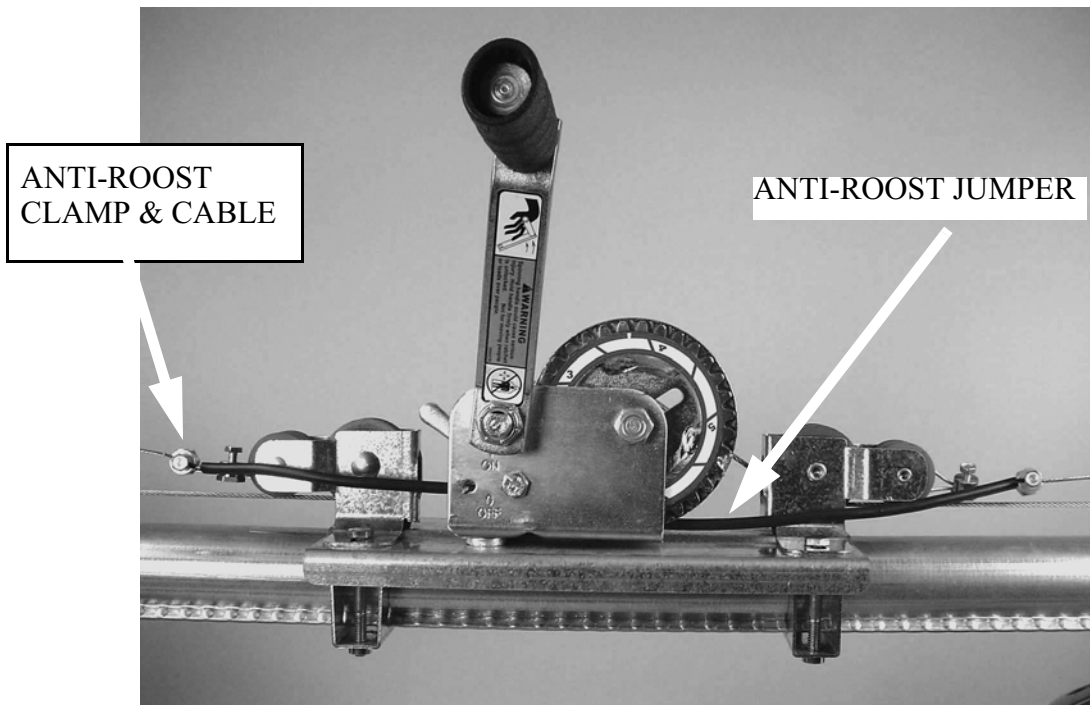

Figure 53. Anti-Roost Cable Connection
12. Install the Poultry Trainer or Line Charger, as shown in **Figure 53 or 54**.
The Poultry Trainer is used to power all Anti-Roost lines in a house. See **Figure 53**.